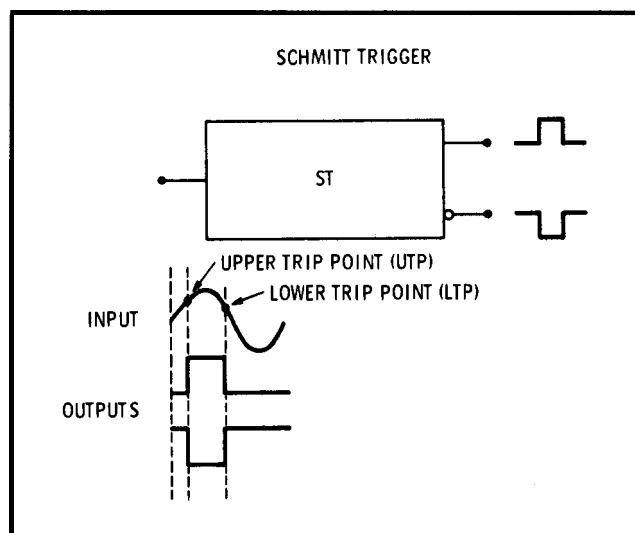

Figure 8-7. Schmitt Trigger
**8-49. Schmitt Trigger.** A typical Schmitt Trigger is shown in Figure 8-7. Some Schmitt triggers have complementary outputs. The device initially triggers when the input signal passes a voltage refer-